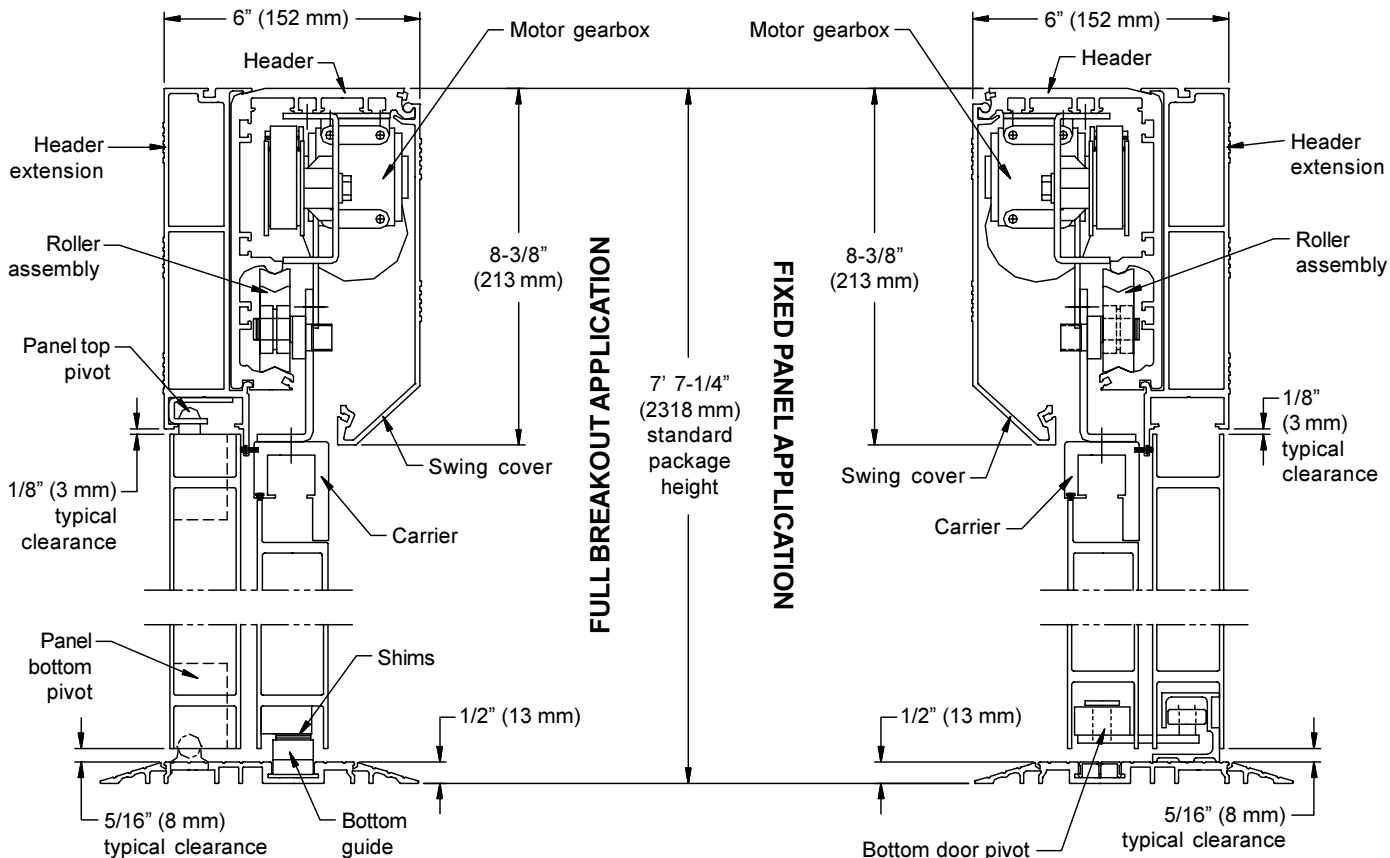

Figure 13. Section View through Header, Door, and Panel
2. Refer to **Figure 13** for a detailed section view of a typical Series 96000 Slide Full Breakout or Fixed Panel application.